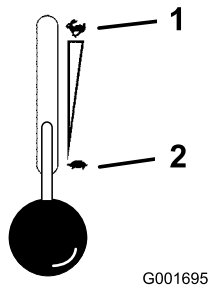

Figure 13
5. Move the throttle control to the Fast position before starting a cold engine (Figure 13).
2. Move the throttle lever midway between the slow and fast positions (Figure 13).